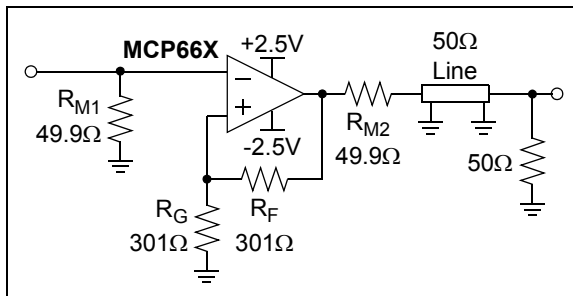

FIGURE 4-10: 50Ω Line Driver.
Differential Gain (DG) and Differential Phase (DP) refer to the non-linear distortion produced by a NTSC (or PAL) video component. Table 1-2 and Figure 2-34 show the typical performance of the MCP661, configured as a gain of +2 amplifier (see Figure 4-10), when driving one back-matched video load (150Ω, for 75Ω cable). Our tests use a sine wave at NTSC's color sub-carrier frequency of 3.58 MHz, with a 0.286VP-P magnitude. The DC input voltage is changed over a +0.7V range (positive video) or a -0.7V range (negative video).
Figure 4-10 shows the MCP661 driving a 50Ω line. The large output current (e.g., see Figure 2-18) makes it possible to drive a back-matched line ( $R_{M2}$ , the 50Ω line and the 50Ω load at the far end) to more than ±2V (the load at the far end sees ±1V). It is worth mentioning that the 50Ω line and the 50Ω load at the far end together can be modeled as a simple 50Ω resistor to ground.